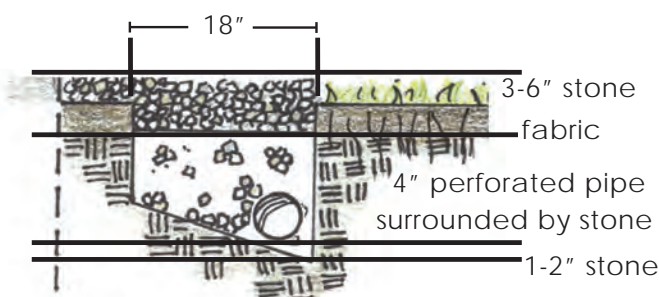

Figure 2. Profile for slowly draining soils.
**For Slowly Draining Soils: Fill the bottom 1" - 2" of the trench with crushed stone. Lay a 4" perforated pipe with the holes facing up along the trench. The end of the pipe should either outlet to a vegetated area with a splash guard to prevent erosion or to another treatment practice such as a dry well or a rain garden. The pipe should be sloped toward the outlet so the water easily flows out of the pipe. Consider screening or adding another type of rodent guard on the exposed end of the pipe to prevent animals from nesting and clogging the pipe. Fill the trench with  $\frac{1}{2}$ " to  $1\frac{1}{2}$ " crushed stone until it is about 3 inches below the ground level. Place a piece of non-woven geotextile fabric over the stone layer and fill the remaining three inches with additional stone (Figure 2).**